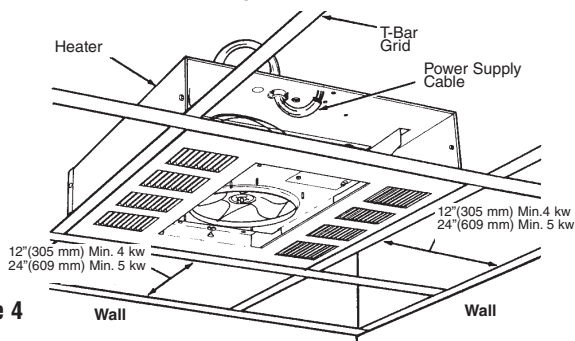

Figure 4
- Position the heater in the T-bar grid (Figure 4) and secure as required. See Warning No. 9.